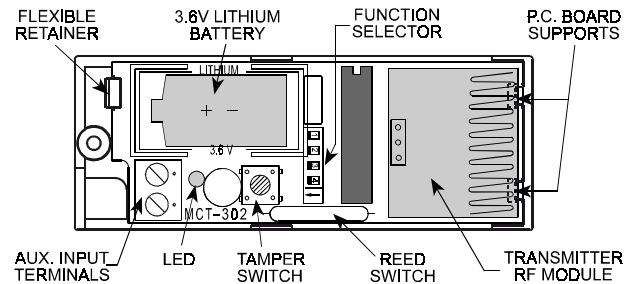

Figure 1. MCT-302 with cover removed
- Flex out the circuit board retainer (Fig. 1 and 5) and detach the circuit board from the base.